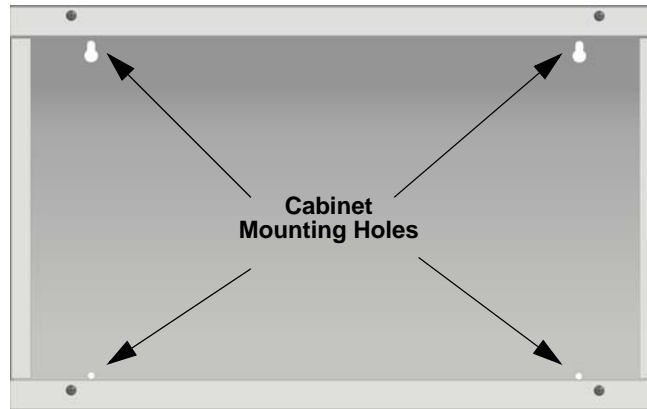

Figure 4.7 RBB Cabinet Mounting Holes
1. Mount the accessory cabinet. See Figure 4.7 for the four cabinet mounting holes.